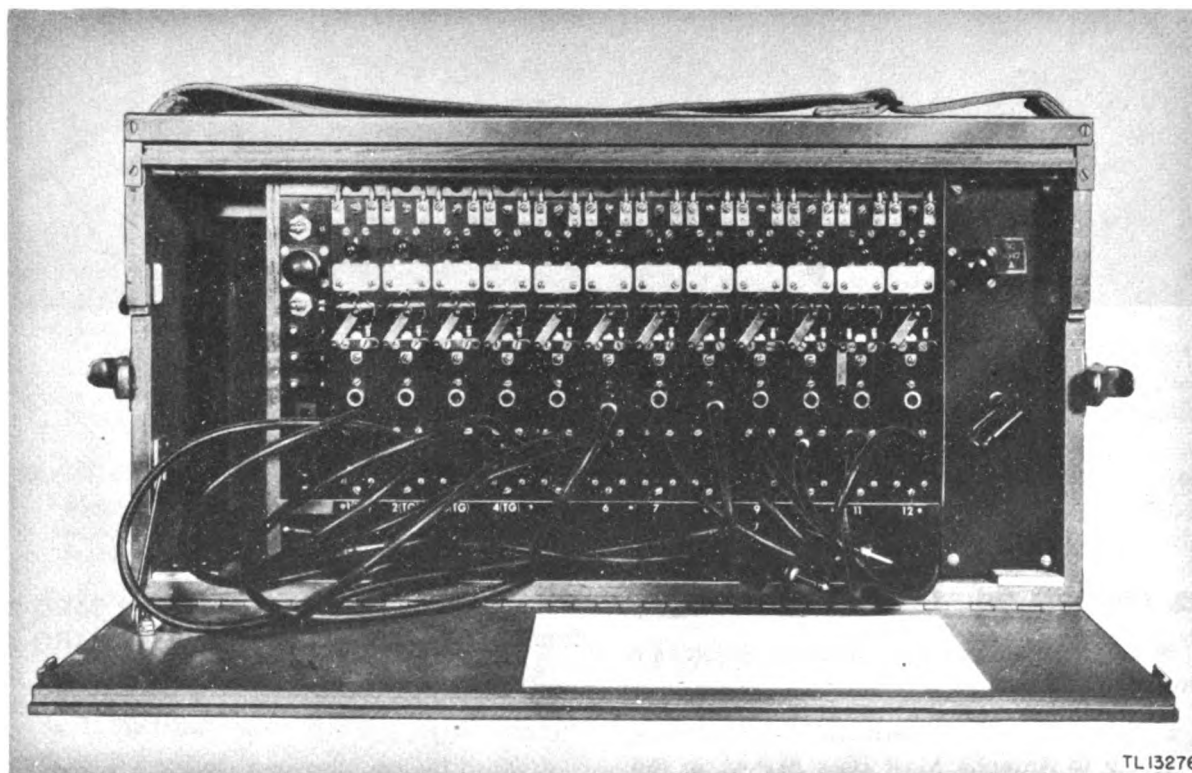

Figure 13. Switchboard BD-72().
- a. Insert 6 Batteries BA-30 into the switchboard battery box. The box is accessible from the rear of the switchboard (fig. 13). For the correct battery installation procedure, see TM 11-330.